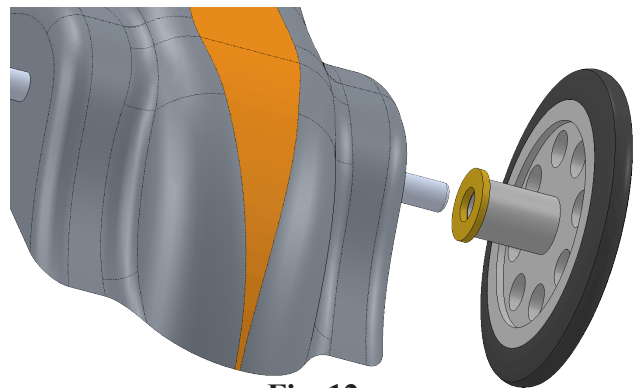

Fig. 12
Step 8. Click **Add/Finish Mate**  in **Mate** pop-up toolbar to add a **Coincident** mate, **Fig. 12**.